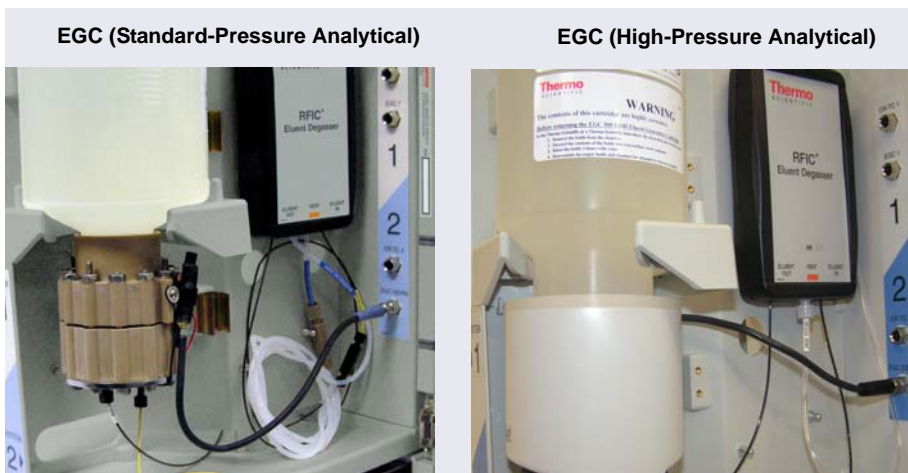

Figure 4-26. Connecting the Dionex EGC Electrical Cable
11. Push the Dionex EGC electrical cable firmly onto the **EGC 1** (or **EGC 2**) bulkhead connector (see Figure 4-26). Twist the ring on the cable connector fingertight to secure it.